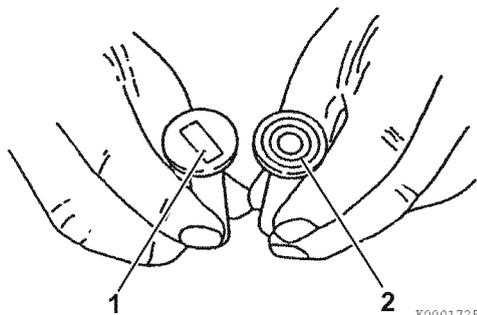

Figure 6-77
1. Inspect the tappet contact surfaces for abnormal wear (1, **Figure 6-77**). Normal wear will be even as shown in (2, **Figure 6-77**). Slight surface defects can be corrected using an oilstone.